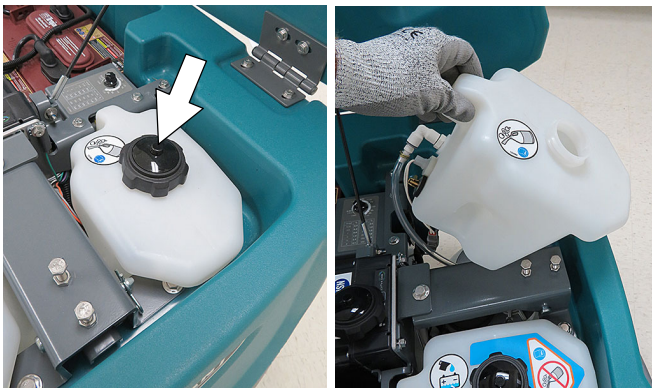

FIG. 158
3. Pour 1 gallon / 4 liters of propylene glycol based recreational vehicle (RV) antifreeze into the solution tank.
Models equipped with optional Severe Environment detergent tank - Lift tank from machine and empty the detergent from tank (Figure 158). Return tank. Pour a 1/4 gallon / 1 liter of propylene glycol based recreational vehicle (RV) antifreeze into the detergent tank.